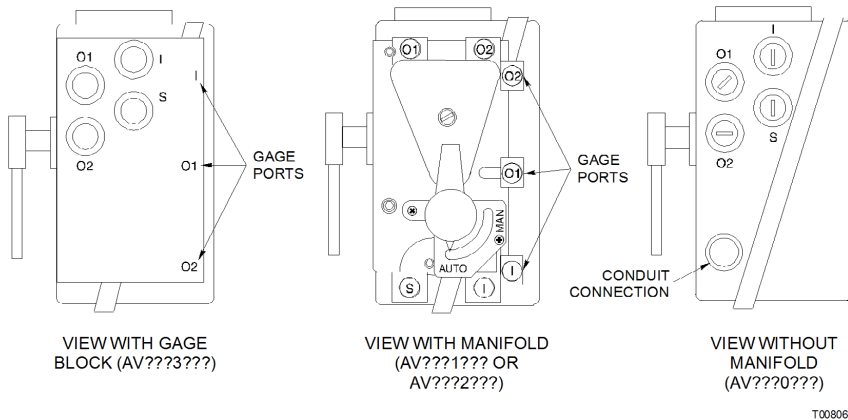

Figure B-5. Port Locations
Type AV positioners are available with (Type AV\_\_1\_\_ and AV\_\_2\_\_) or without (AV\_\_0\_\_) manifolds (see Fig. B-5). The following outlines supply air information and describes the piping connections.
1. Connect the required supply air to connection S (Fig. B-5).
2. Based on the positioner type, perform one of the following steps (Fig. B-5):